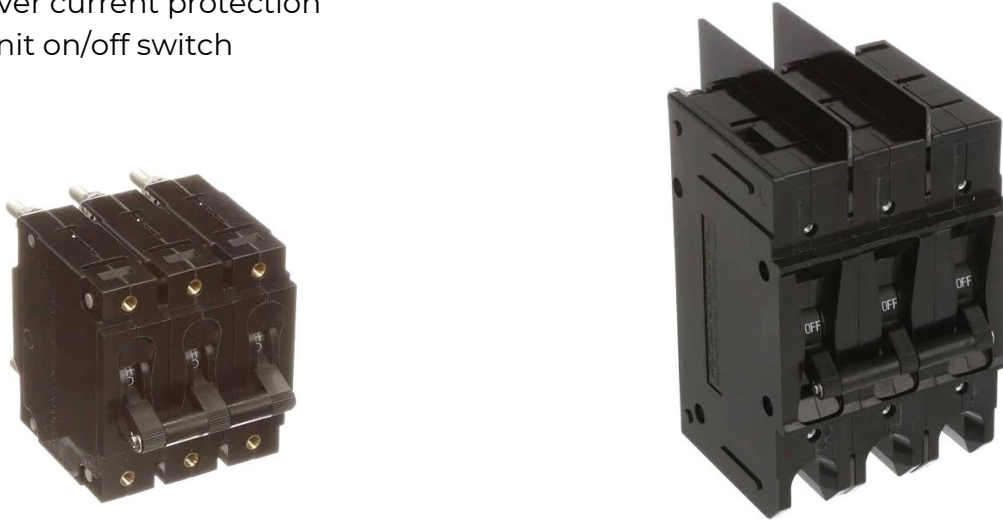

Figure 17: Three-Pole, Circuit Breaker, C-Series (left) and E-Series (right) Shown
2.6 VRP INTERNAL CIRCUIT BREAKER -See Figure 17